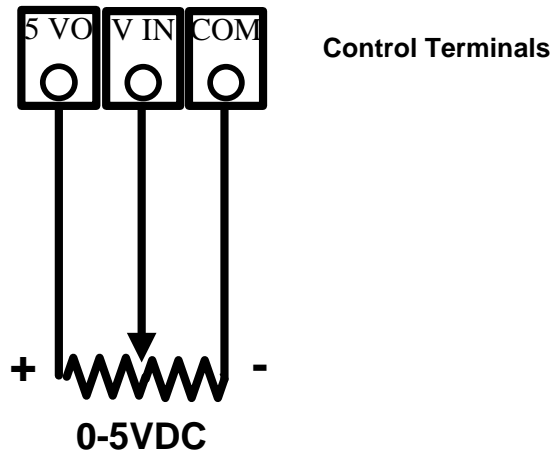

Figure 13 - Connection Diagram for 0-5VDC Transducer (Potentiometer)
2. Connect the potentiometer and 4-20 mA transducer as in **Figure 13** and **Figure 18**.